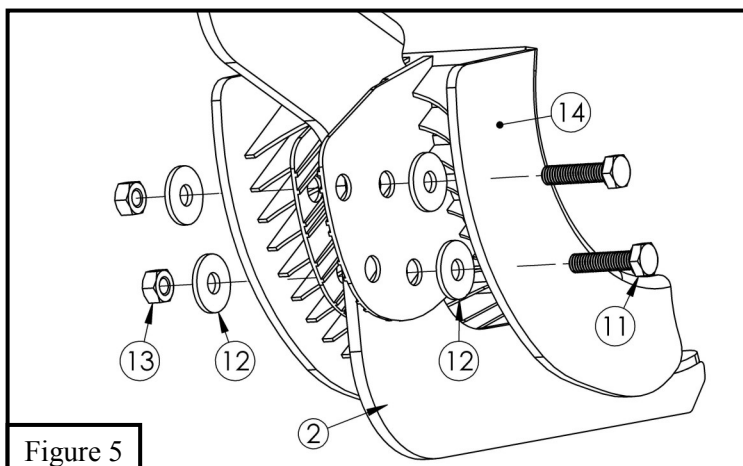

Figure 5
7. Locate (1) plastic bracket cover (Item 14) and loosely secure it to the (6) brackets using the provided hardware: (2) M6 hex head cap screws, (4) M6 flat washers, and (2) M6 nylon nuts. Repeat for every bracket. See **Figure 5**.